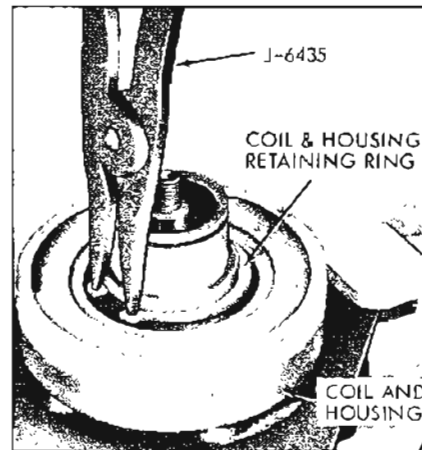

Figure 11-66—Removing and Installing Coil and Housing Retainer Ring
6. Mark position of coil and housing assembly in relationship to shell of compressor, withdraw coil and housing retainer ring (see Figure 11-66) using No. 26 Truarc Pliers (J-6435), and lift out coil and housing assembly.